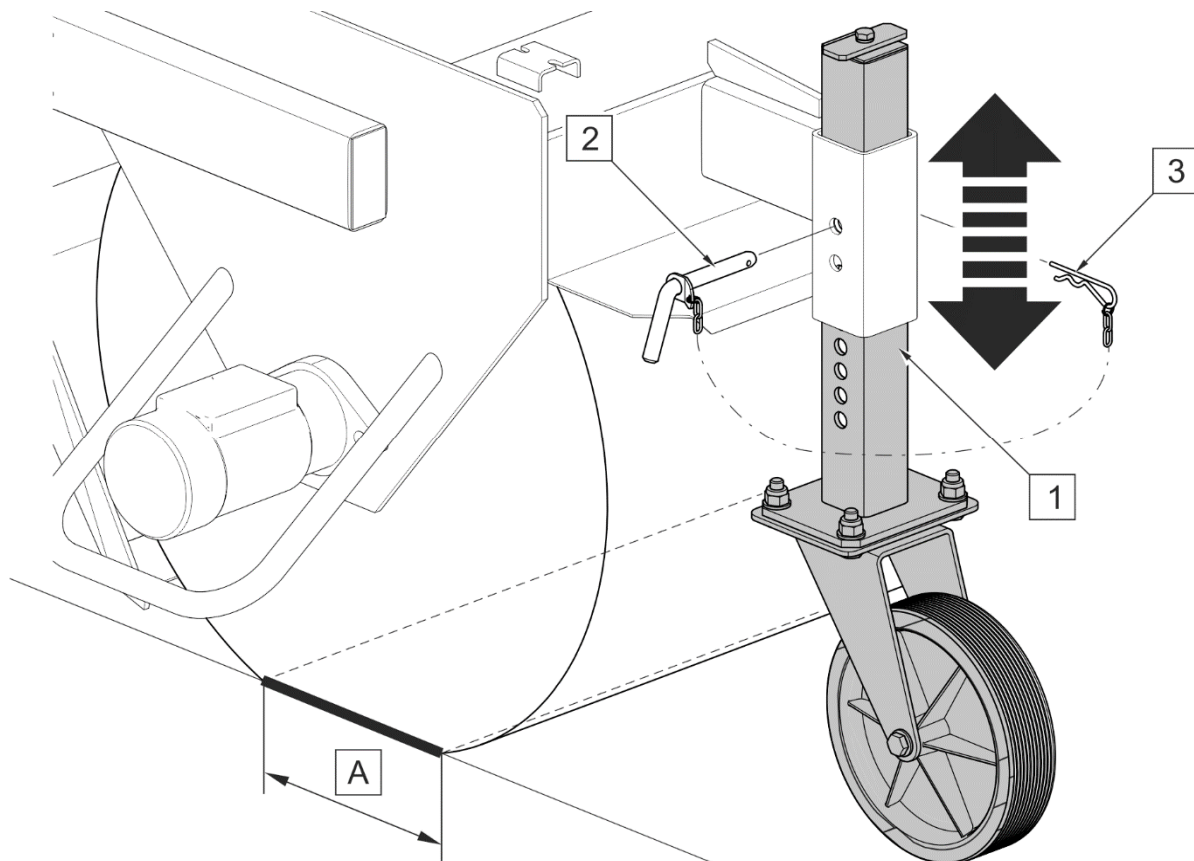

FIG. 5.1 Adjustment of roller brush pressure
Adjustment of roller brush should be always made in combination with adjustment of waste tank (this does not apply to the sweeper without waste tank). When setting the brush, take its wear into account. The roller brush ground contact surface should be within A range (from 60 to 120 mm) (FIG. 5.1). The pressure can be set individually depending on the degree of ground contamination.
(1) - jockey wheel; (2) - linchpin; (3) - securing cotter pin; (A) - brush ground contact surface (60-120 mm)
Brush pressure is adjusted by changing the position of jockey wheels (1) in guides (FIG. 5.1) as follows:
- remove securing cotter pin (3) and linchpin (2),
- raise or lower the wheel (3) in the guide so that the holes are coaxial,
- insert linchpin (2) into the corresponding hole and secure with cotter pin (3),